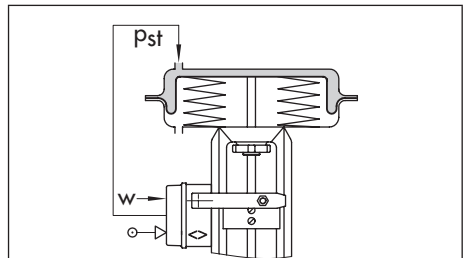

Fig. 8: Operating direction >> Left attachment
→ See Fig. 5 to Fig. 8 on page 17.
The positioner output pressure is routed to the top or bottom diaphragm case of the actuator as shown in Fig. 5 to Fig. 8.
→ See Fig. 5 to Fig. 8
Make sure the location of the lever (1) and the plate (20), "lever located at top of plate" or "lever located at bottom of plate" is correct (Fig. 5 to Fig. 8).